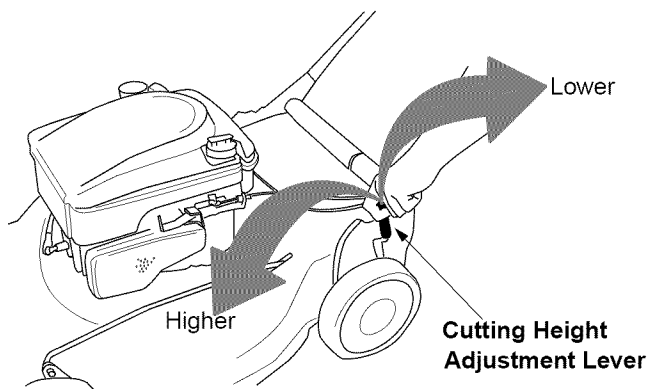

Figure 12
- The cutting height adjustment lever is located above the left rear wheel. Pull the lever out and away from the mower and then move it forward or back for a new cutting height. See Figure 12.